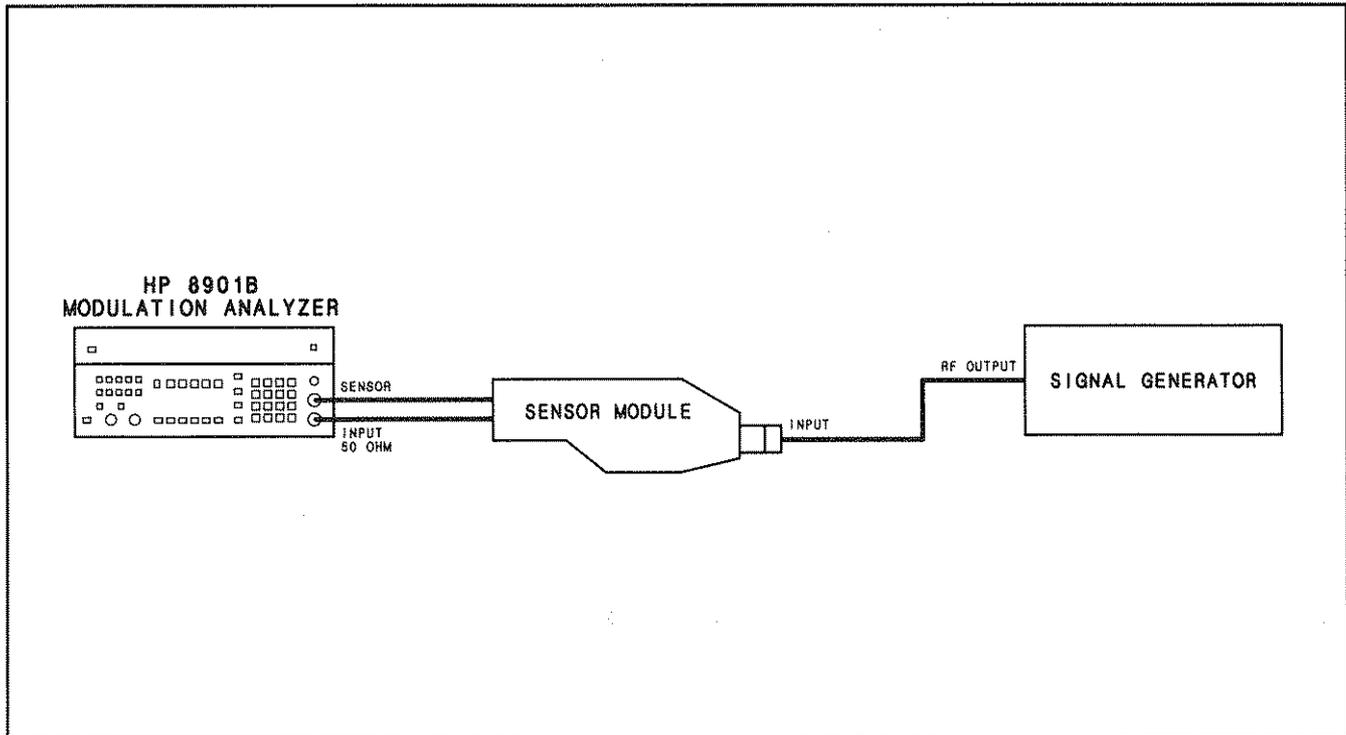

Figure 3-9. AM Check Setup
19. Reconnect the sensor module input to the signal generator's output. (See Figure 3-9.)